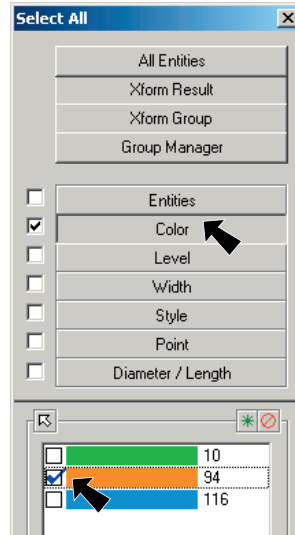

Fig. 26
Step 2. Click **Color** button in the Select All dialog box, Fig. 26.
Step 3. Click to place a **check** in **tangerine (94)** check box, Fig. 26.